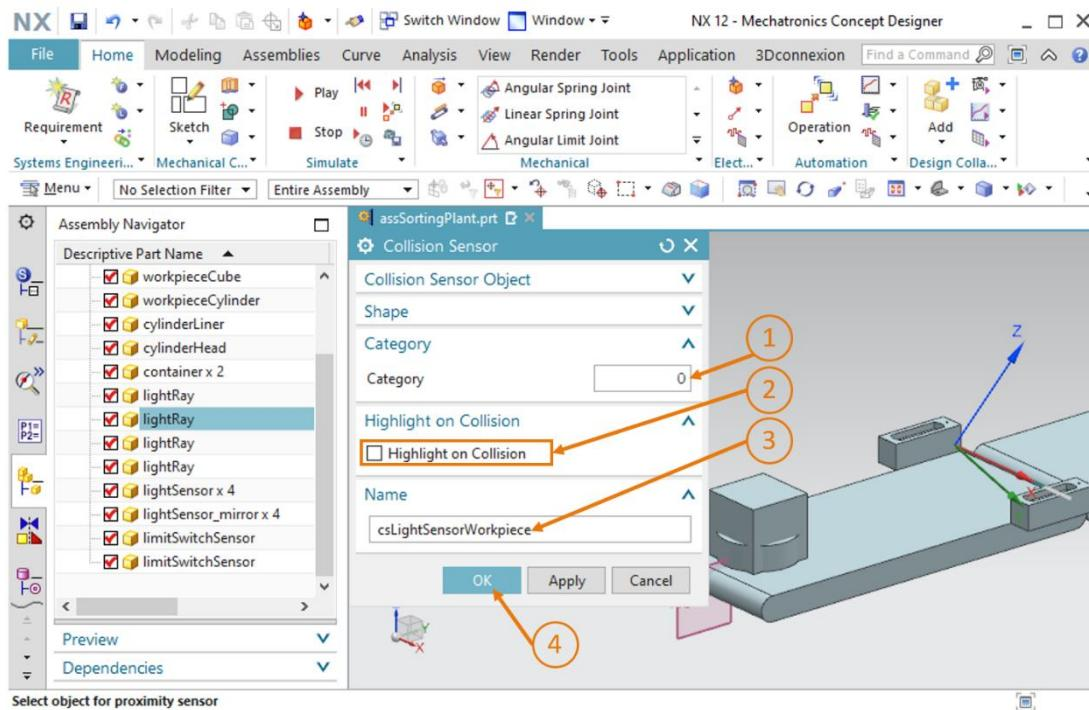

Figure 50: Creating the collision sensor for counting all workpieces – Specifying other settings and the name
- Leave the category set to the value "0" (see Figure 50, step 1). Clear the "Highlight on Collision" check box (see Figure 50, step 2). Finish by assigning the name "`csLightSensorWorkpiece`" (see Figure 50, step 3) and confirm your inputs by clicking the "OK" button (see Figure 50, step 4). The prefix "cs" stands for "collision sensor".